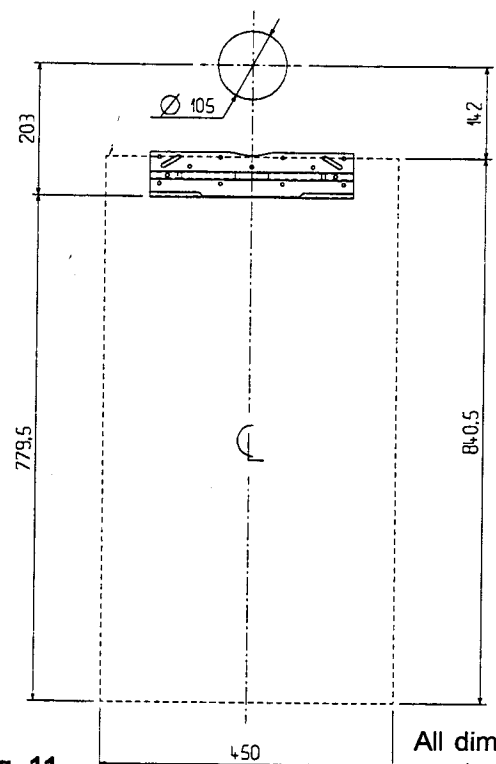
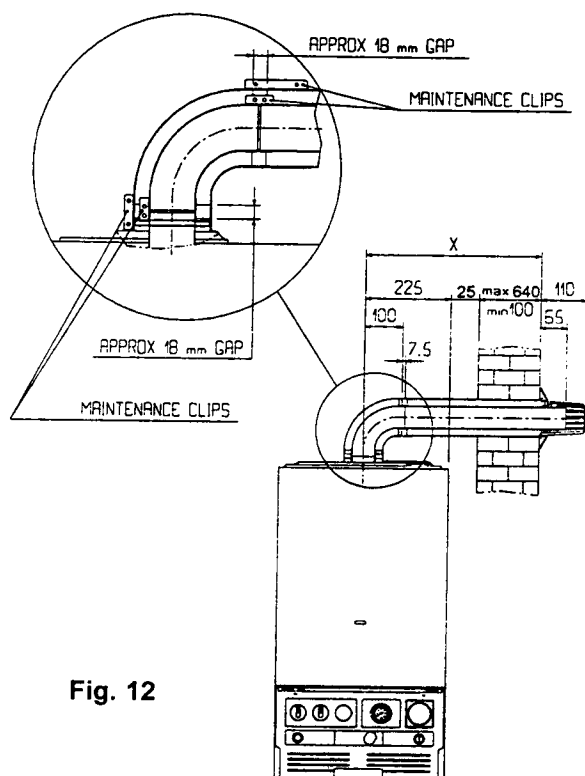
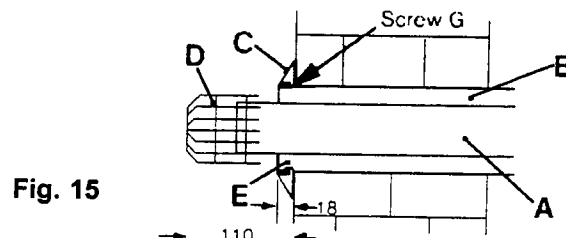
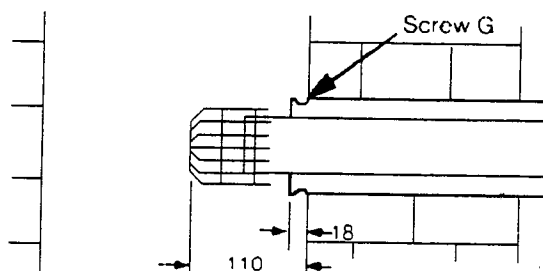

Fig. 11
Fig. 12
Fig. 15
Fig. 16
5.4 MOUNTING THE APPLIANCE (Ref. Fig.11)
Alternatively, position bracket and holes to dimensions in Fig. 11.
Refer to fig. 11 and figs. 12 - 16 for relevant dimensions for locating the hole. Where it is remote from the boiler take special care to ensure the hole is at the correct level so that the finished flue is horizontal.
- 5.5.1 Refer to figures 12 - 16
- 5.5.3 Hang the boiler on the bracket. Adjust the boiler sideways to its correct position. Locate the small maintenance clip on to the flue elbow (figs. 12 & 13) and assemble onto the flue outlet on the top of the boiler. Twist the flue bend to the outlet direction required, and tighten the maintenance clip to secure the flue bend in place. Carefully level across to check that the hole through the wall is 1° lower than the flue bend.
- 5.5.4 Measure carefully from the actual face of the outside wall to the centre of the flue bend. (Dimension X on Figs 12 & 14)
NOTE: The two tubes must be separated by removing screw G (fig. 15) before cutting. The outer air tube should also be shortened by the same amount to allow a gap for easy working (see inset on fig. 12).
- 5.5.9** Ensure inner and outer terminal tubes are firmly fitted together with screw G (Fig. 15). Push the terminal tubes through the wall until the face of the outer tube protrudes 18mm from the face of the wall (Fig. 15). The terminal grill (D) will then protrude 110mm from the wall face.
- 5.5.16** Check also that the outer end of the flue projects as indicated in Fig. 15 or Fig. 16 if installed in a S.E. duct.
- 5.5.17** Referring to Fig. 12 fit the large maintenance clips into position and secure the clip screws.
- 5.5.19** Seal the peripheral gap around the outer tube with cement or mastic and slip the cosmetic flexible plastic collar (Fig. 15) item C) into groove on the pipe.
- 5.5.21** Assemble the large and small maintenance clips as shown in Fig. 12.
- 5.5.29 Referring to Fig. 12 fit the large maintenance clip into position and tighten clip screws.
- 5.5.32 Subtract 97mm from the dimension and cut the outer tube to this length. NOTE: The two tubes must be separated by removing screw G Fig. 15 before cutting.
- 5.5.39 Referring to Fig. 12 fit the large maintenance clip into position and secure clip screws.